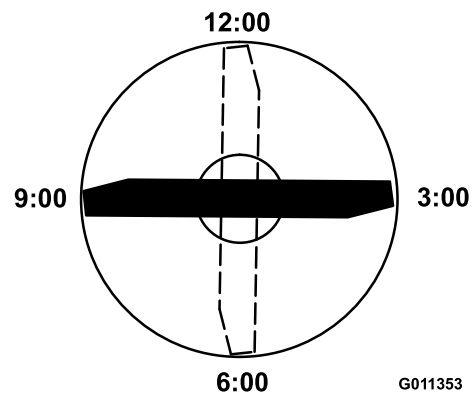

Figure 96
4. Position the cutting edge of the marked end of the blade at 12 o'clock (straight ahead in the direction of mowing) (Figure 96) and measure height from table to cutting edge of blade.
5. Rotate the marked end of the blade to the 3 and 9 o'clock positions (Figure 96) and measure the heights.